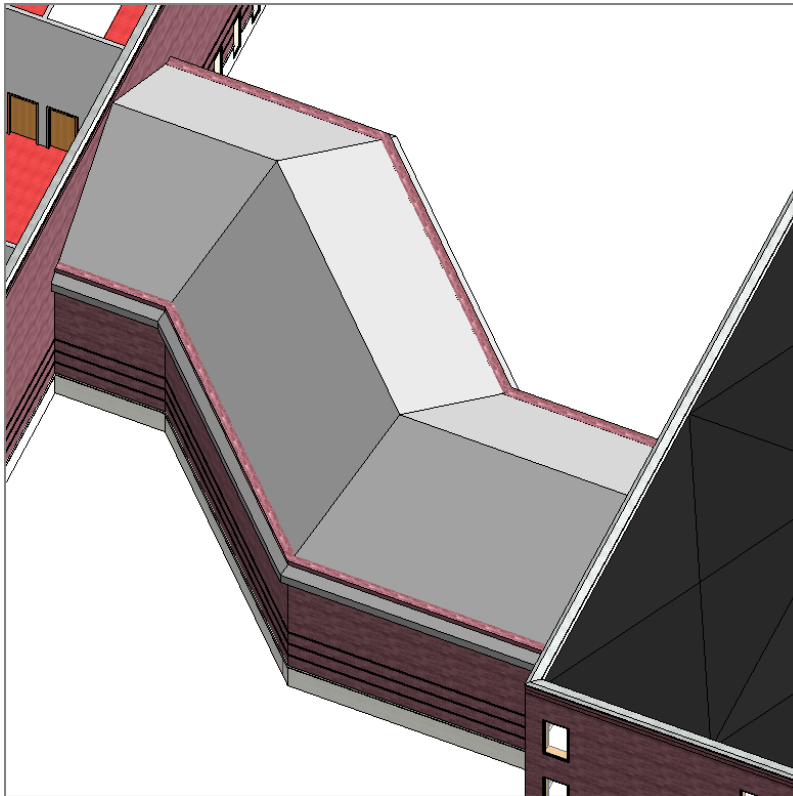

FIGURE 7.30: The corridor roof in 3D
12. Go to a 3D view. Does your roof look like Figure 7.30?